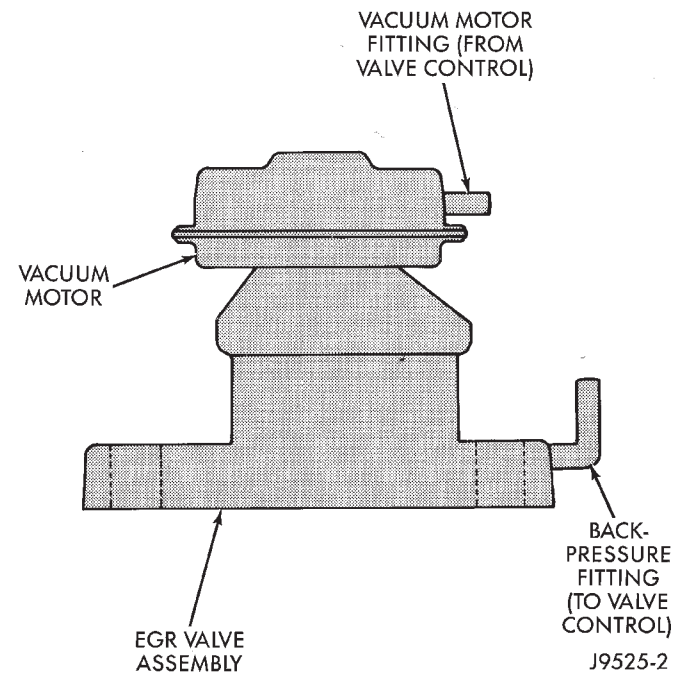

Fig. 6 Typical EGR Valve
(1) All engines are equipped with two fittings located on the EGR valve (Fig. 6). The upper fitting (located on the vacuum motor) supplies engine vacuum to a diaphragm within the EGR valve for valve operation. The lower fitting (located on the base of the EGR valve) is used to supply exhaust back-pressure to the EGR valve control.
(2) Disconnect the rubber hose at the vacuum motor fitting (Fig. 6) on the top of the EGR valve vacuum motor.
(3) Connect a hand-held vacuum pump to this fitting.
(4) Start the engine.
(5) Slowly apply 5 inches of vacuum to the fitting on the EGR valve motor.
(6) While applying vacuum, a minimum of 3 inches of vacuum, and with the engine running at idle speed, the idle speed should drop or the engine may even stall, if the vacuum is applied quickly. This is indicating that exhaust gas is flowing through the EGR tube between the intake and exhaust manifolds.